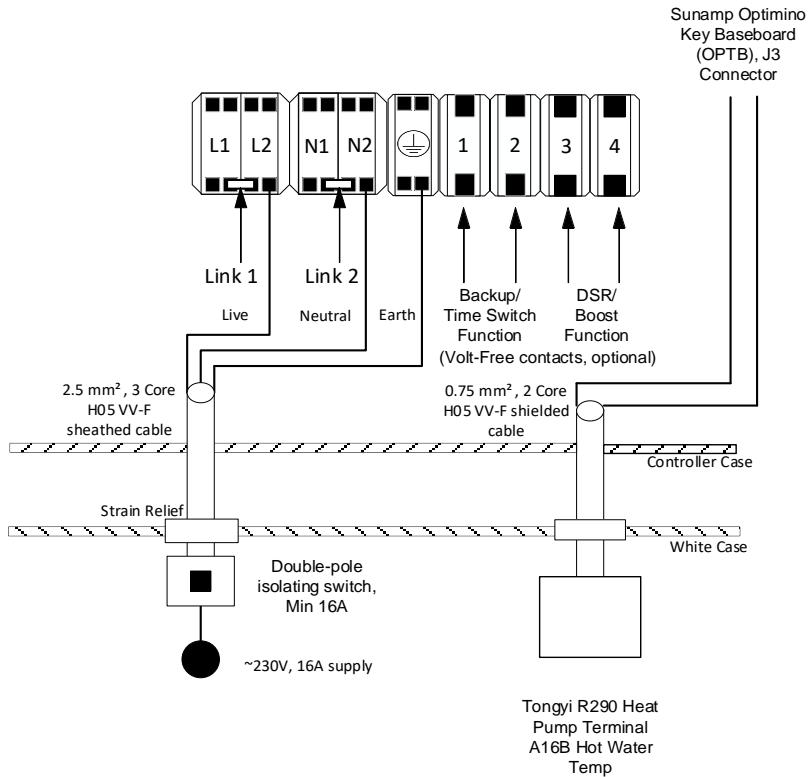

Figure TI.1 - Thermino xPlus with TI01 Optimino key
- Thermino xPlus with the "TI01" & "TI02" Optimino keys (D0084 – Section 6.4.2 for wiring instructions & Figures TI.1 & TI.2 below)
appliance case cabling grommets and then into the control box housing through the hole available. Secure the cables in terminals J3 on the Optimino Board J3; please see Figures TI.1 & TI.2 below for reference.